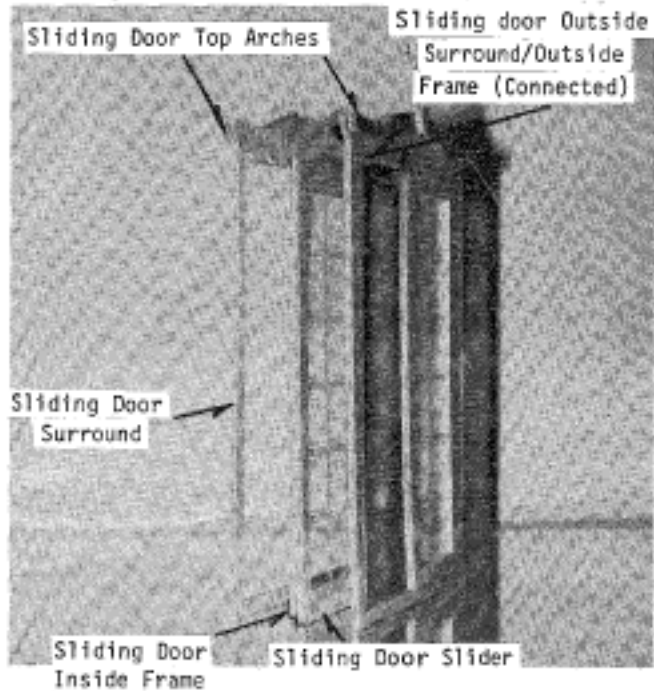

Figure 20
3. Assemble same as double hung windows, except the slider moves side to side. Figure 20.